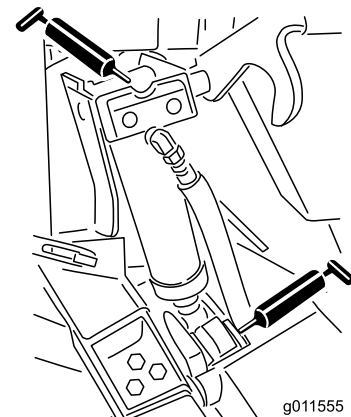

Figure 46
- 4 lift-cylinder bushings (Figure 46)